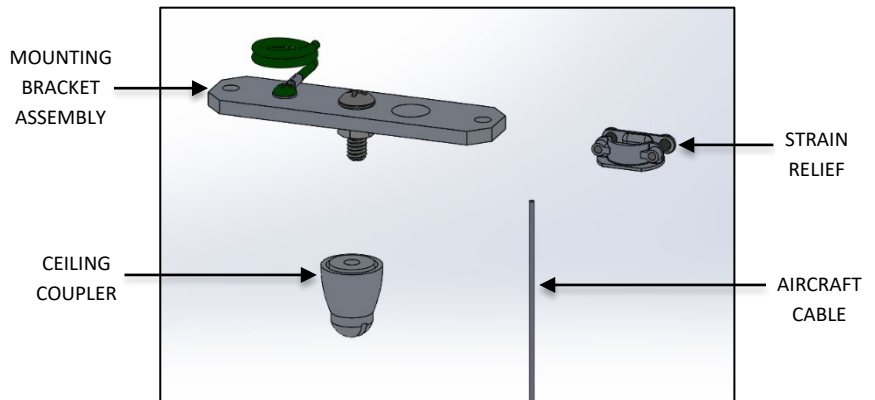
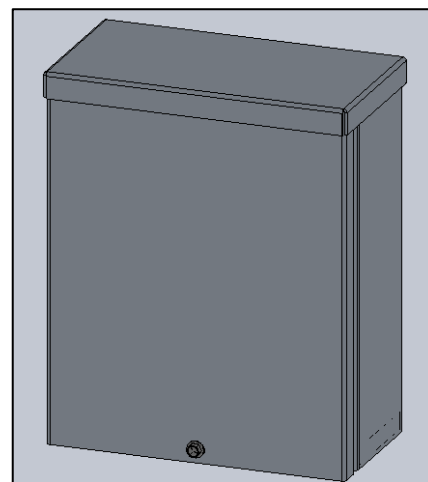

FIG. 4 – MOUNTING KIT
FIG. 5 – REMOTE DRIVER BOX
- b. MOUNTING KIT (as shown in FIG. 4)
- iii. ONE (1) AIRCRAFT CABLE
- iv. ONE (1) CEILING COUPLER (CC)
4. REMOTE DRIVER BOX WITH DRIVER INSTALLED (as shown in FIG. 5)